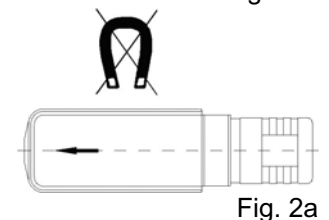

Fig. 2a
- ↺ Please make sure that there are no external magnetic fields in the immediate vicinity of the flow switch, since these can impair device functioning (Fig. 2a).
- ↺ There is an arrow on the flow switch. Ensure that this arrow is parallel with the pipe shaft and is facing in the direction of flow during installation (Fig. 2a).